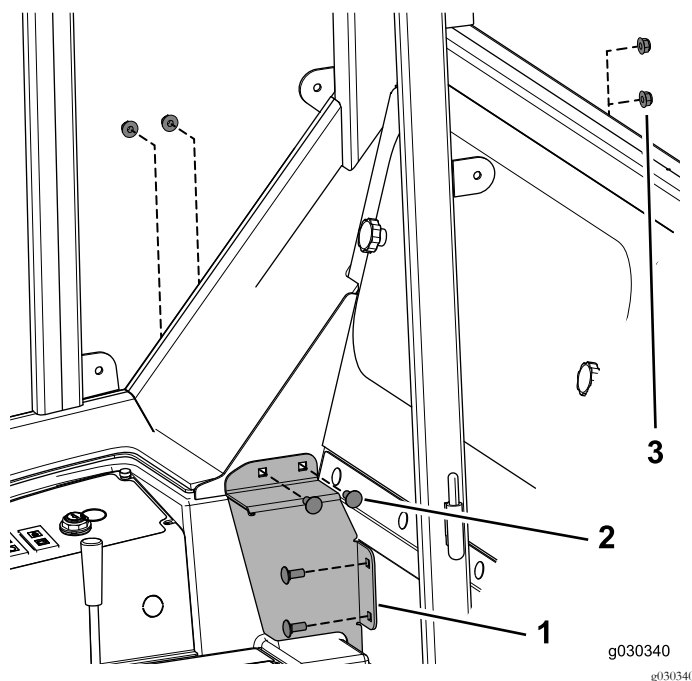

**Figure 23**
- Loosely install the back panel to the cab using 8 carriage bolts (5/16 x 3/4 inch) and 8 locknuts (Figure 23).